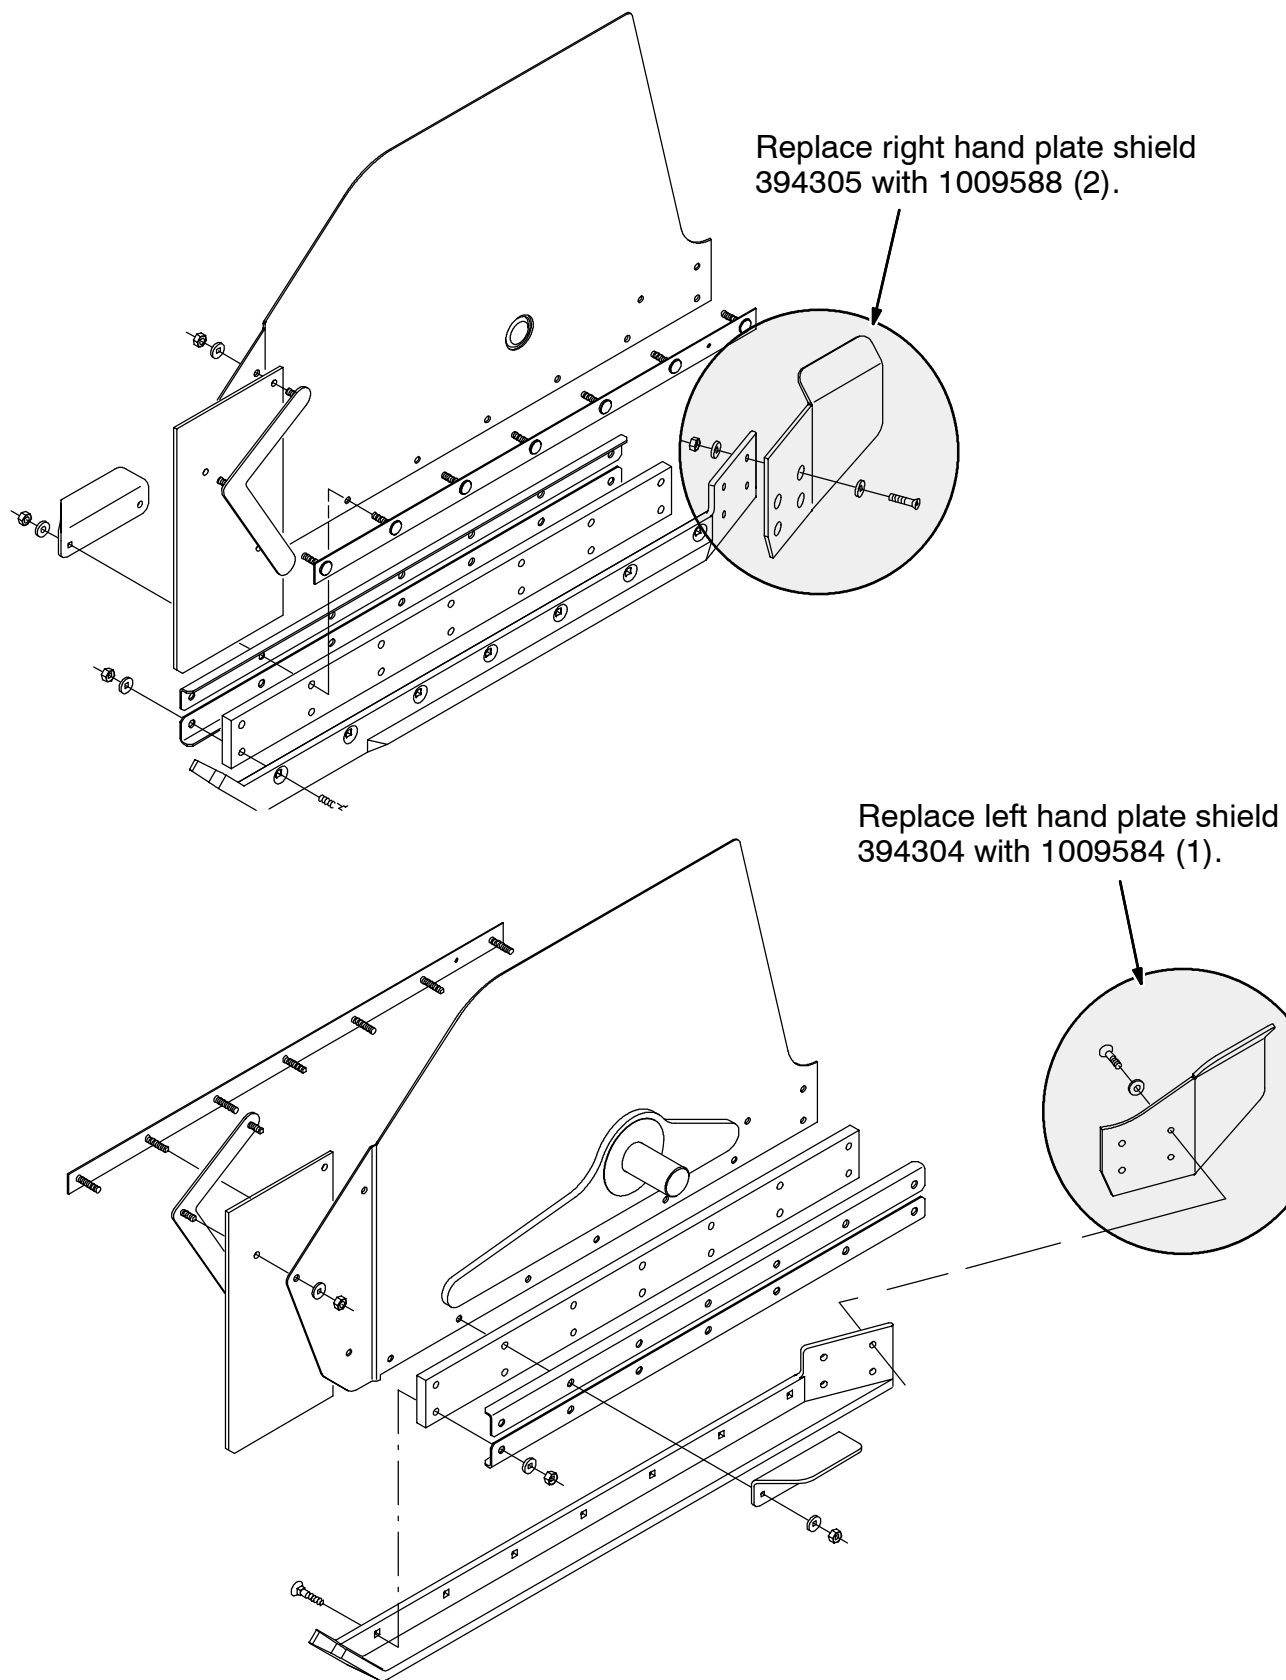

FIG. 2 - Drag Shoe Plate Shield Replacement
5. Remove and replace right hand plate shield 394305 with new shield 1009588. Torque mounting hardware to 35–49 Nm (25–35 ft lbs). (Refer to FIG. 2)
6. Remove and replace left hand plate shield 394304 with new shield 1009584 (1).
(Refer to FIG. 2)